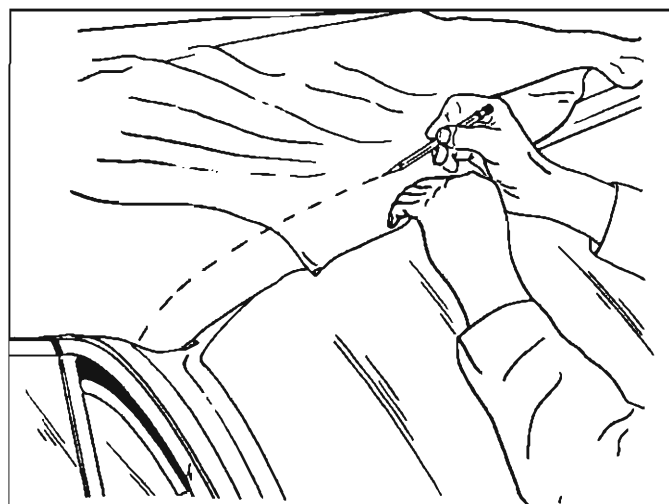

Fig. 60—Marking Top Material of Front Roof Rail
44. At front roof rail, pull top trim material forward to desired tension. While maintaining tension on top trim, place a pencil mark on outer surface of trim material along forward edge of front roof rail (fig. 60).